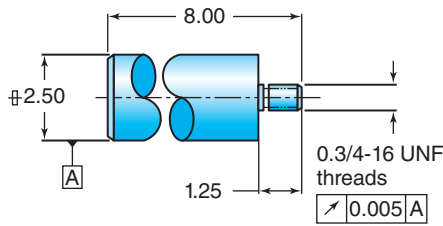

Figure 11-97 Which holding method would be best for this CRS cut bar job?
2. Fifteen 2.5-in.-diameter shafts must be turned to 0.750-in. diameter, then threaded with 1.0 of threads. They are precut to 8.250 in. long from a CRS bar—no finishing of the 2.5-in. diameter will be required. Runout requirement is 0.005 in. between the shaft and new threads. See Fig. 11-97.